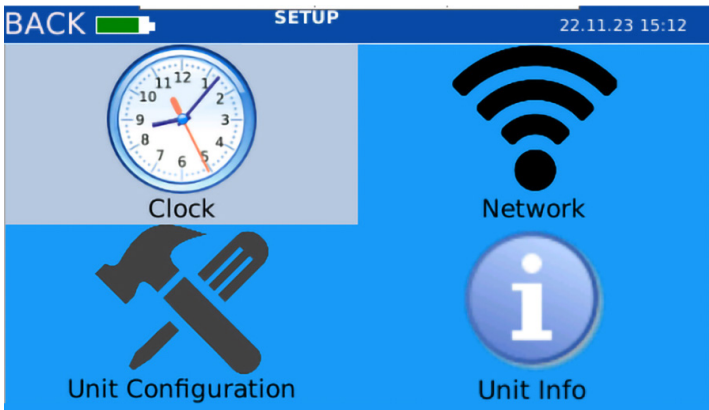
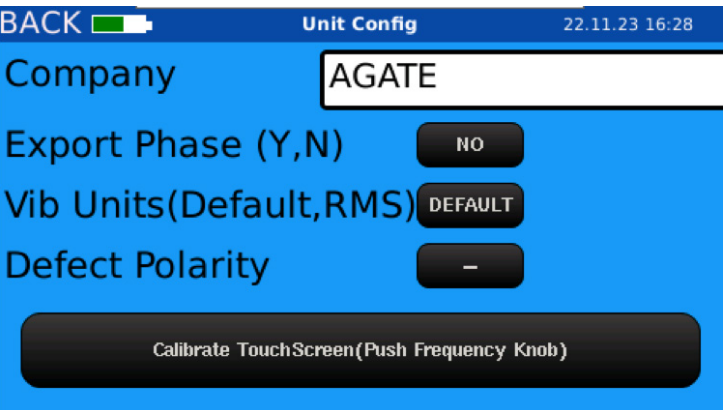

Figure 12. Select "Unit Configuration"
Figure 13. Unit configuration screen options
- 1. In the Setup menu, select **Unit Configuration** (Figure 12) to open the configuration screen (Figure 13).
- 1. On the Unit Configuration screen, select the **Company field** and enter the company name (Figure 13).
- 1. On the Unit Configuration screen, select the **Calibrate TouchScreen button** (Figure 13).